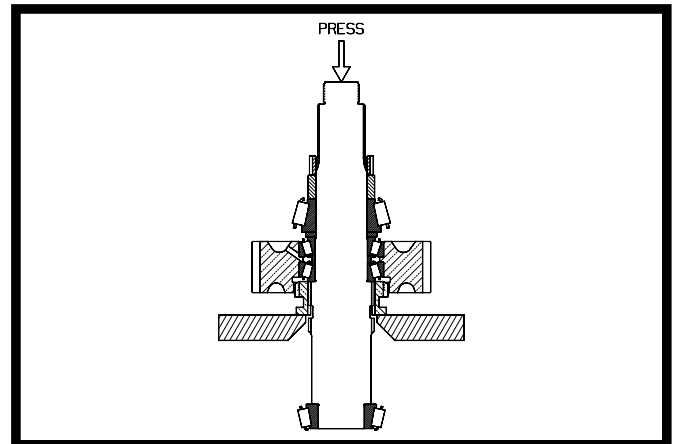

Figure 4.22
3. Place the shaft assembly in a press so that the clutch collar is supported and the press arbor bears against the end of the shaft. **Do not support the assembly by the gear.** See Figure 4.22. Remove the speedometer sensor gear and its spacer, the (3) bearing cone assemblies, the gear assembly, the two spacer rings, and the clutch collar.